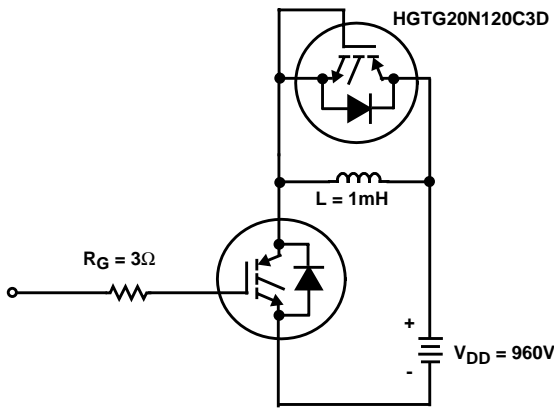

FIGURE 19. INDUCTIVE SWITCHING TEST CIRCUIT
| Current Turn-On Delay Time | $t_{d(ON)I}$ | IGBT and Diode at $T_J = 25^\circ\text{C}$ $I_{CE} = I_{C110}$ $V_{CE} = 0.8 BV_{CES}$ $V_{GE} = 15\text{V}$ $R_G = 3\Omega$ $L = 1\text{mH}$ Test Circuit - (Figure 19) | - | 39 | - | ns | |
| Current Turn-On Delay Time | $t_{d(ON)I}$ | IGBT and Diode at $T_J = 150^\circ\text{C}$ $I_{CE} = I_{C110}$ $V_{CE} = 0.8 V_{CE(S)}$ $V_{GE} = 15\text{V}$ $R_G = 3\Omega$ $L = 1\text{mH}$ Test Circuit - (Figure 19) | - | 39 | - | ns |
- Values for two Turn-On loss conditions are shown for the convenience of the circuit designer. E_{ON1} is the turn-on loss of the IGBT only. E_{ON2} is the turn-on loss when a typical diode is used in the test circuit and the diode is at the same T_J as the IGBT. The diode type is specified in Figure 19.